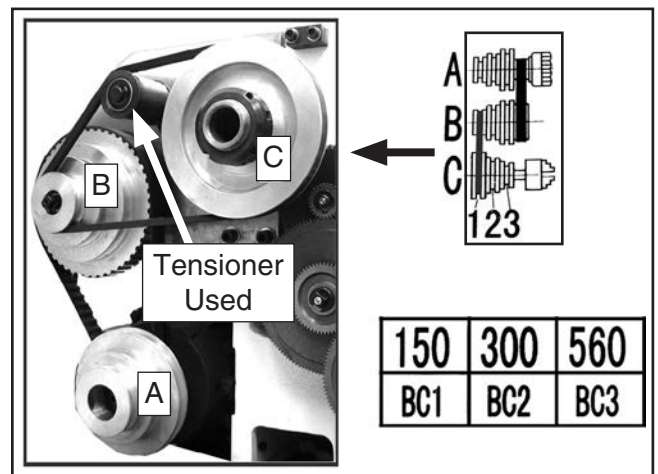

Figure 55. Positioning belt for low speed.
The 27½" belt is used on pulleys B and C (see **Figure 55**) with the tensioner for 50, 300, and 560 RPM.
4. Move the tensioner to install the 27½" belt between pulleys B and C, and in sheave 1, as shown in **Figure 55** on **Page 42**.